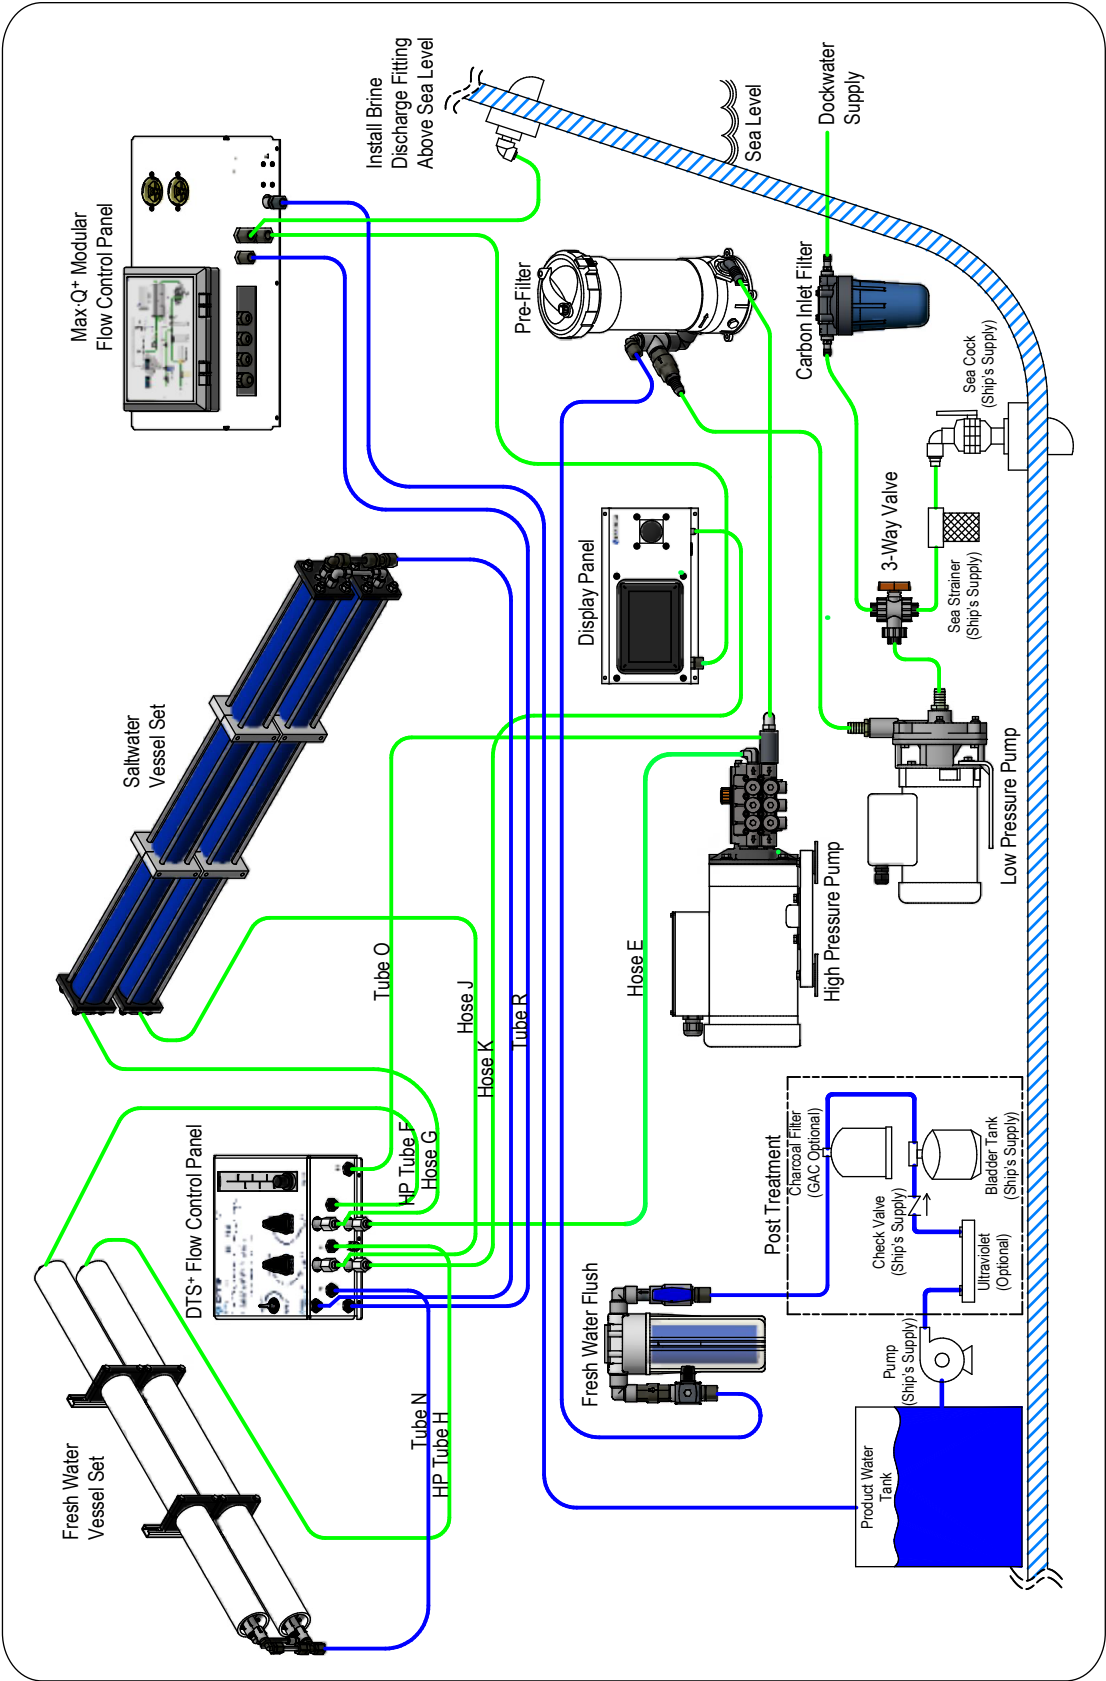

Figure 26: Max•Q+ Modular 1,275 GPD with DTS+
- "Figure 26: Max•Q+ Modular 1,275 GPD with DTS+" on page 48